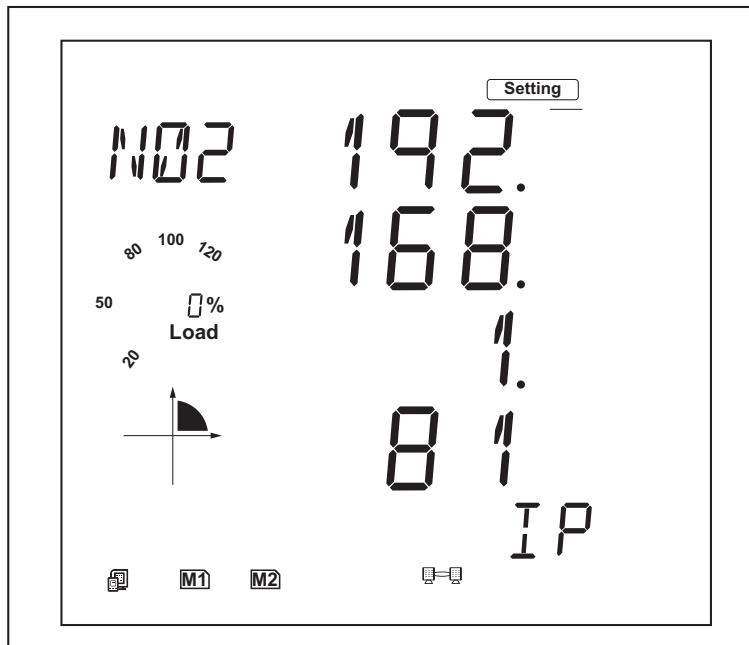

Figure 16: N02: IP Address
6. Press **P** to get to N02:IP address for Ethernet port 1 (Figure 16 on page 16).